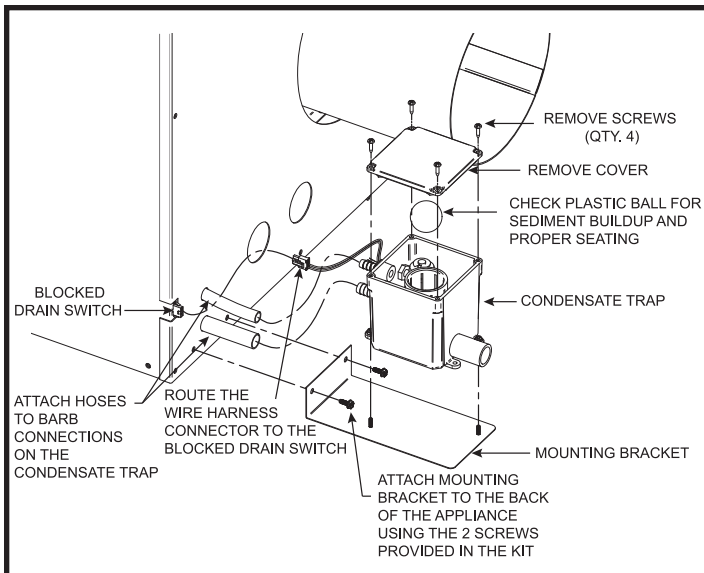

FIG. 73 Install Condensate Trap
1. Locate the condensate trap kit shipped loose with the appliance. The kit includes a sheet metal mounting base, two (2) nuts and the condensate trap.
2. Install the condensate trap mounting base on the rear of the appliance in the lower left-hand corner as depicted in Figure 73. Use the pre-drilled holes on the appliance to secure the mounting base to the appliance.
3. Secure the condensate trap to the base using the two (2) nuts supplied with the kit. The trap should be oriented so that the barb connections are pointing toward the appliance (Figure 73).
5. Locate the two hoses exiting the back of the appliance. Attach the larger hose on the appliance to the lower barb connection on the condensate trap. Secure the hose to the barb with a field supplied hose clamp (Figure 73).
6. Attach the upper hose on the unit to the upper barb connection on the condensate trap. Secure the hose to the barb with a field supplied hose clamp (Figure 73).
7. Route the wire connector harness from the condensate trap to the matching connector on the lower back of the appliance as shown in Figure 73. This is the blocked drain safety switch. This switch will shut the appliance off if the condensate trap becomes too full of liquid.
9. If spillage is still occurring, shut the appliance off. Remove the four (4) screws securing the top cover to the condensate trap and remove the cover (Figure 73).
11. Replace the top cover on the condensate trap. Re-install the four (4) screws removed in Step 9 to secure the top cover.
12. A 1/2" pipe connection is supplied on the condensate trap. Connect a suitable pipe or tube to this connection (see Figure 73).